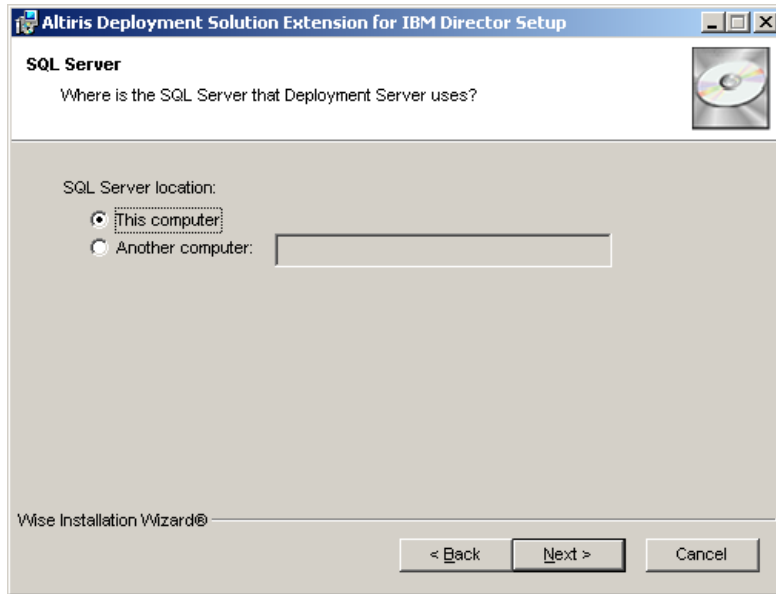

Figure 8-35 The SQL Server window of the extension installation process
- ▶ If your Deployment Database is running under a non-default instance of Microsoft SQL Server, select **Another computer**, which is on the SQL Server window of the install process (see Figure 8-35 on page 294) and specify the instance name in the following format: